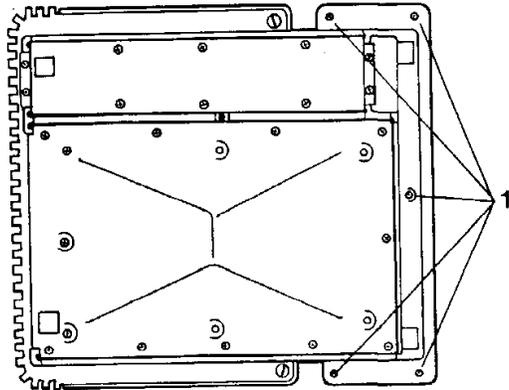

FIGURE 1
3. Remove the five keyboard cover mounting screws. (See Figure 1, Item 1).